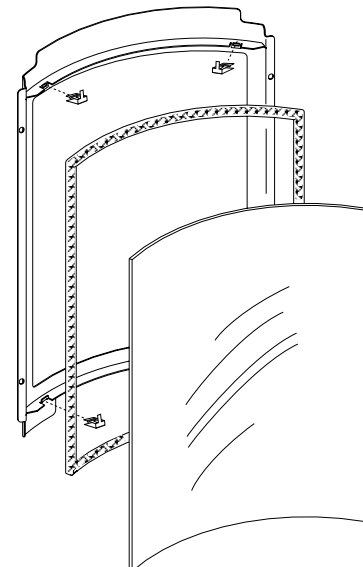

Figure 9.2.
6. Lay the glass panel within the glass frame and press the tabs back down or press the clips in place as shown in fig. 9.2.